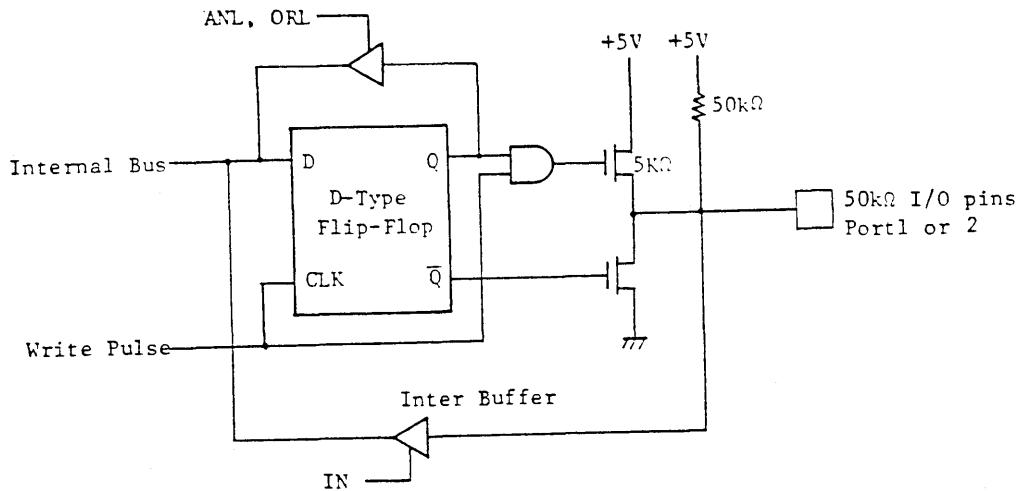

Fig.1 Input/Output Circuit of Port 1, Port 2
(3) Input/Output Ports
- All lines of Ports 1 and 2 are called quasi-bidirectional because of a special output circuit structure (illustrated in Figure 1). Each line is continuously pulled to a +5V level through a high impedance resistive device ($50\text{k}\Omega$) which is sufficient to provide the source current for a TTL high level yet can be pulled low by a standard TTL gate thus allowing the same pin to be used for both input and output. In order to speed up the "0" to "1" transition a low impedance device ($5\text{k}\Omega$) is switched in momentarily whenever a "1" is written to line. When a "0" is written to line a low impedance device overcomes the pullup and provides TTL current sinking capability.